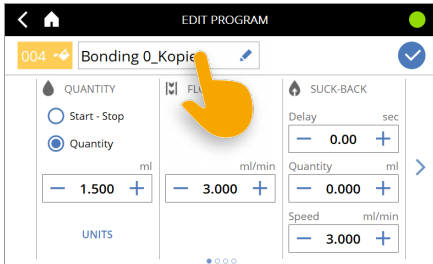

Fig. 53
- ▶ Click on the name (Fig. 53).